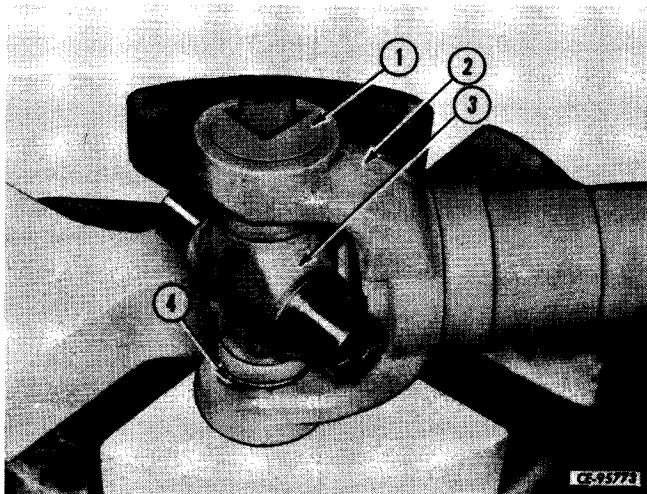

Figure 5-12
Position spider (3, Fig. 5-12) inside of yoke (2) and using a suitable press, press bearings (1 and 4) into shaft yoke (2) and spider (3).